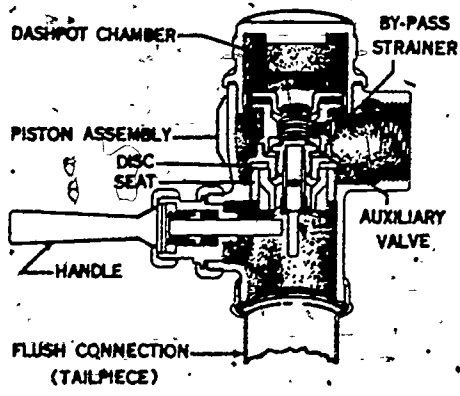

Figure 23. Piston-Type Flushometer
**PISTON TYPE.** The piston-type flushometer valve, shown in figure 23, is operated by a lever which discharges the water from the upper chamber. The differential pressure then forces the piston assembly upward, allowing the water to enter the closet bowl. The upper chamber is filled through a bypass which is connected to the supply. When the pressure is equal on both sides of the piston, it will drop down on its seal, closing off the water supply.